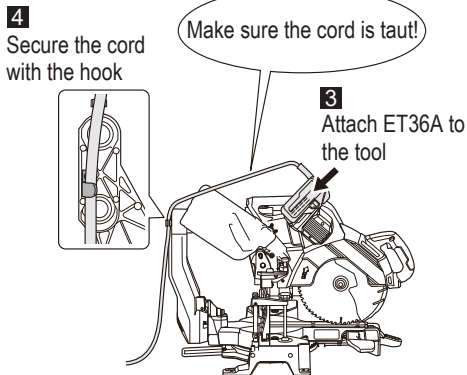

Fig. 58
- (4) Attach ET36A to the tool and secure the cord with the hook so that the cord is taut. (Fig. 58)